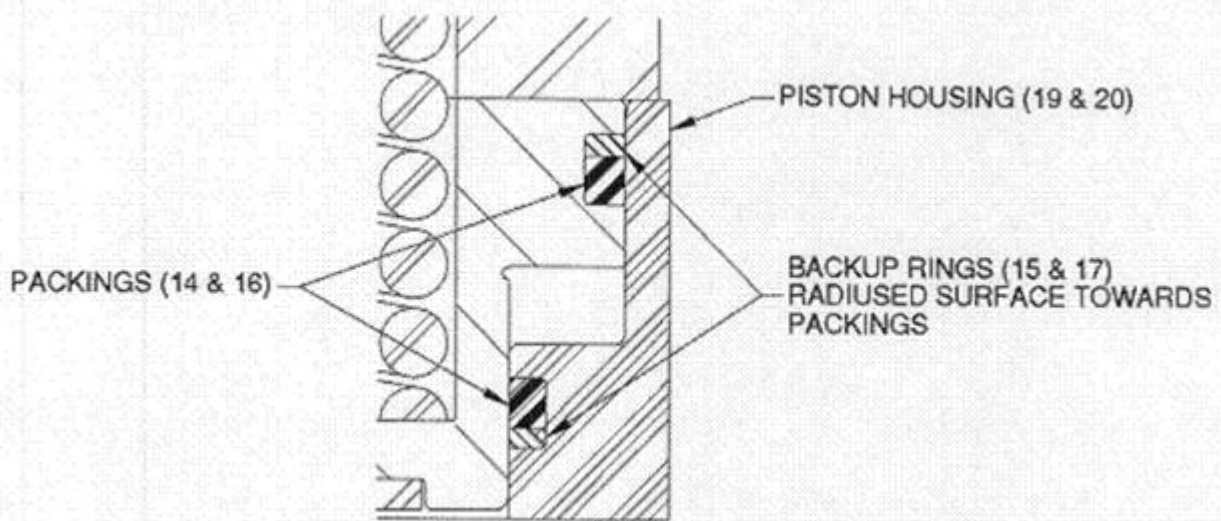

Figure 4
- 5.4.5 Install the packings (14 & 16) and the backup rings (15 & 17) in the OD grooves of the pistons (13) and ID grooves of the piston housings (19 & 20) with the backup rings (15 & 17) installed in accordance with the diagram in Figure 4.